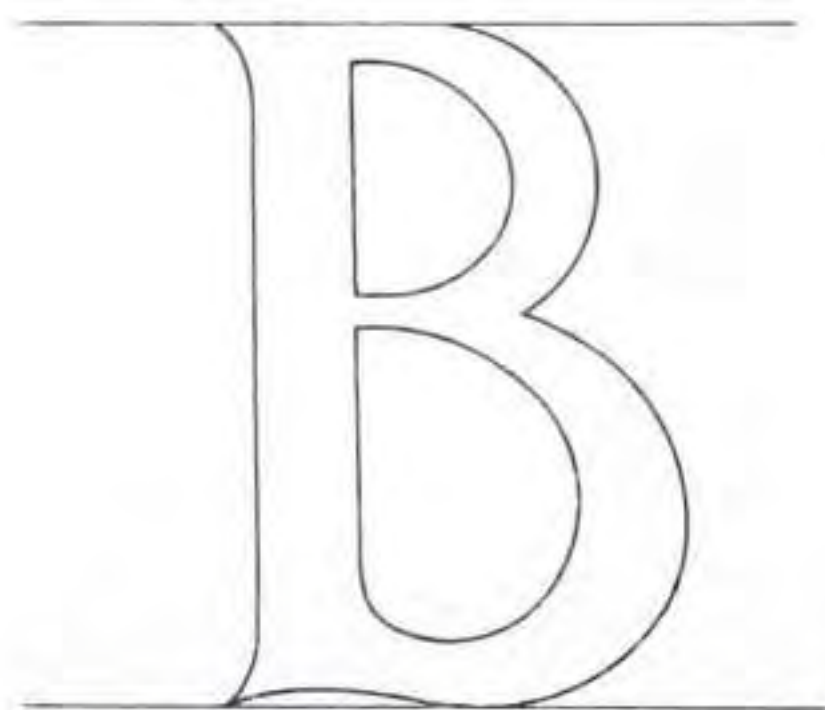

Fig 8.70 Layout for **B**. Letter height for exercise : 50mm.
- 1 Draw out the cap and base lines, and the letter. Note that this **B** has a hollowed base (see Fig 8.70).